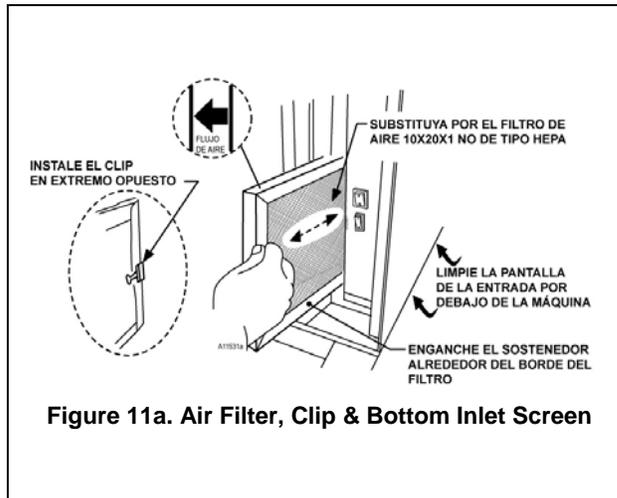

Figure 11a. Air Filter, Clip & Bottom Inlet Screen
The inlet screen is a long narrow screen located on the bottom right side. It can only be accessed from underneath the cabinet. See Figure 11a on page 29. Remove dust and debris from the inlet screen to allow air to flow to the condenser coils.
- Is the condenser fan running? Fold a sheet of 8 1/2" x 11" paper in half. Place the paper in front of the condenser coil inlet screen located on the bottom right side underneath the cabinet and see if it draws the paper to it. See Figure 11a on page 29.